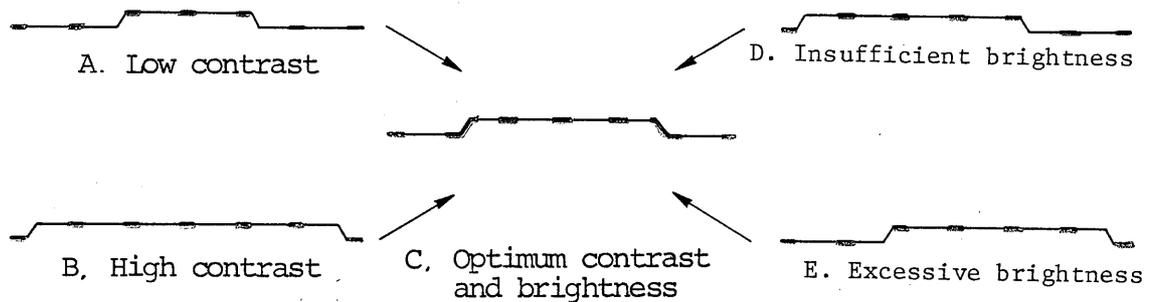

Fig. 4.8-3
By presetting method, Automatic Contrast & Brightness Control (ACB) can maintain the optimum contrast and brightness if the contrast and brightness is kept by exposure marker within the range as illustrated in Fig. 4.8-3, even if brightness and magnification change. (Adjust with controls to obtain optimum contrast and brightness in magnification at approx. 1,000X).
1. Adjust the contrast and brightness with exposure marker to fall within the range as illustrated in Fig. 4.8-3.